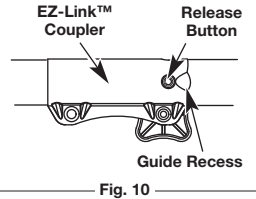

Fig. 10
**WARNING:** Avoid accidental starting. Make sure you are in the starting position when pulling the starter rope (Fig. 10). To avoid serious injury, the operator and unit must be in a stable position while starting. Make sure that any Add-On item is installed correctly and secure before starting the unit.
2. Press and hold the release button (Fig. 10).
**NOTE:** Aligning the release button with the guide recess will help installation (Fig. 10).